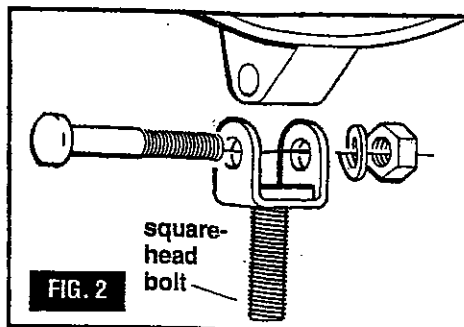

FIG. 2
1. Attach mounting base to lamp housing. Do not tighten completely until wiring is finished and lamps are properly aimed. (See Fig. 2)
(See Fig. 2 and 3)